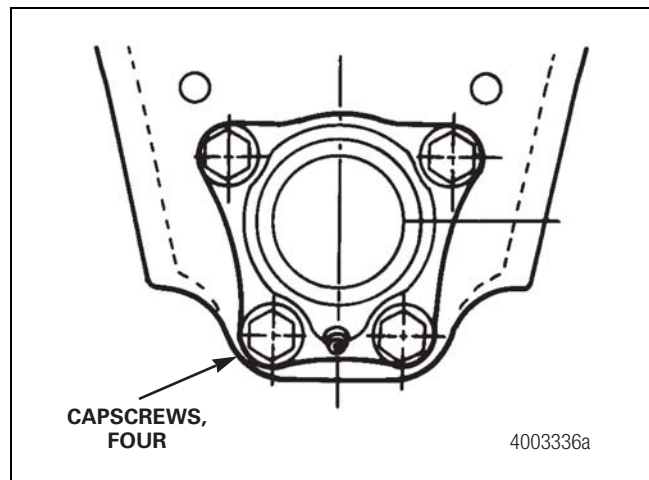

Figure 12.35
4. Tighten the four capscrews to 25-35 lb-ft (34-48 N•m). Figure 12.35.